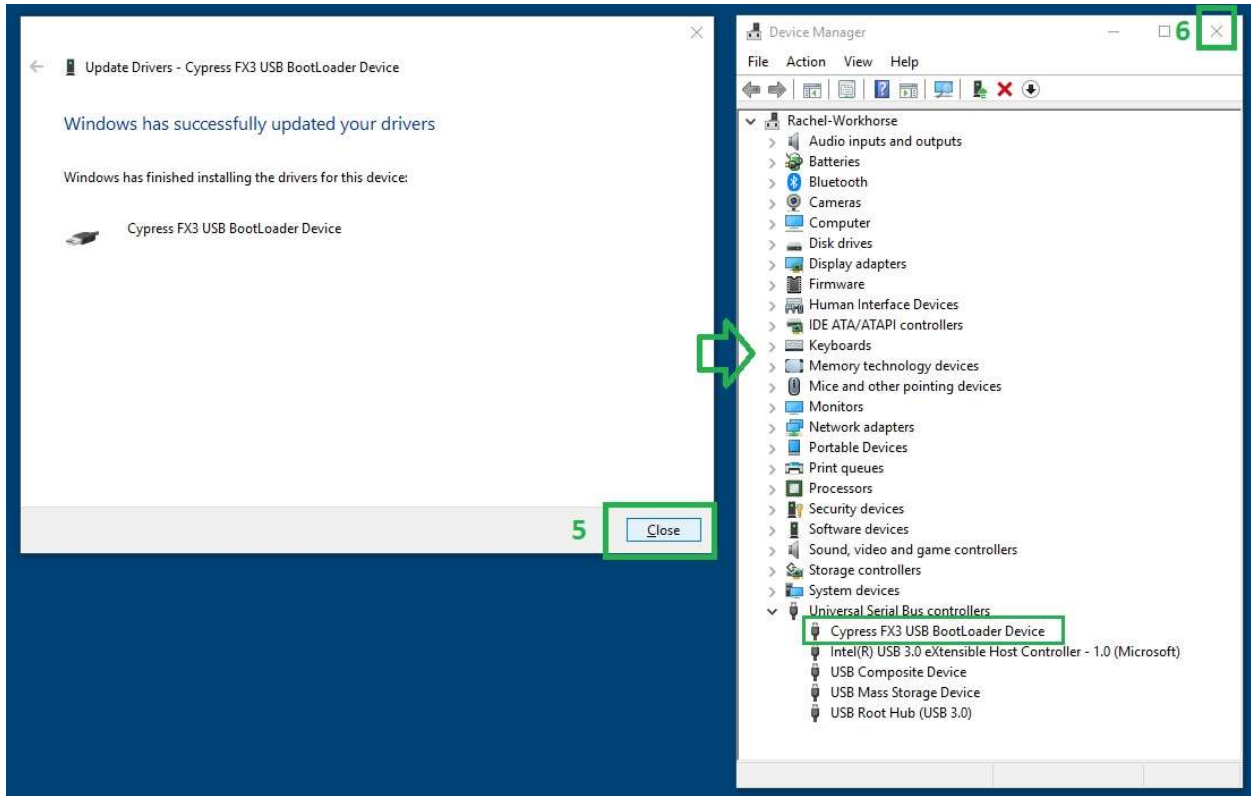

Figure 15. ADC256 driver installation. Step 6.
6. Verify that the driver was installed as *Cypress FX3 BootLoader Device* (before the firmware is loaded) which turns to *Cypress FX3 StreamerExample Device* after the firmware is loaded; see Figure 15.